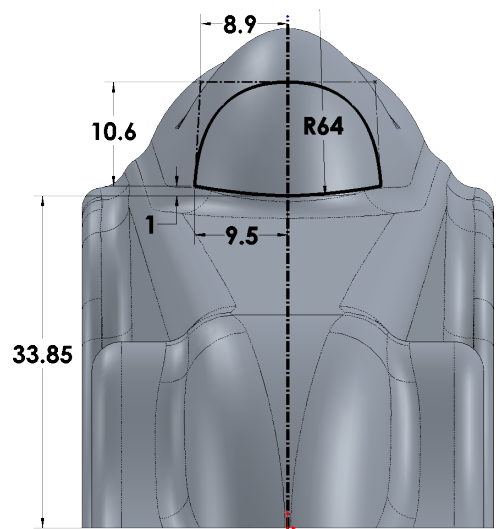

Fig. 133
Step 17. Click **Mirror Entities**  on the Sketch toolbar, **Fig. 133**.